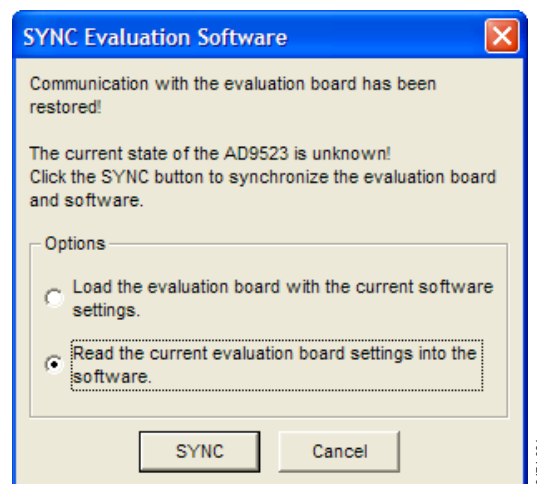

Figure 26. Software Evaluation Board Software Sync Window
3. Reconnect the 6 V power supply. This automatically loads the EEPROM settings into the AD9523. The programmed settings can be observed at the outputs. In addition, a window opens (see Figure 26). Click the second option to read from the AD9523. This loads the control software with the current register settings that were programmed by the EEPROM.